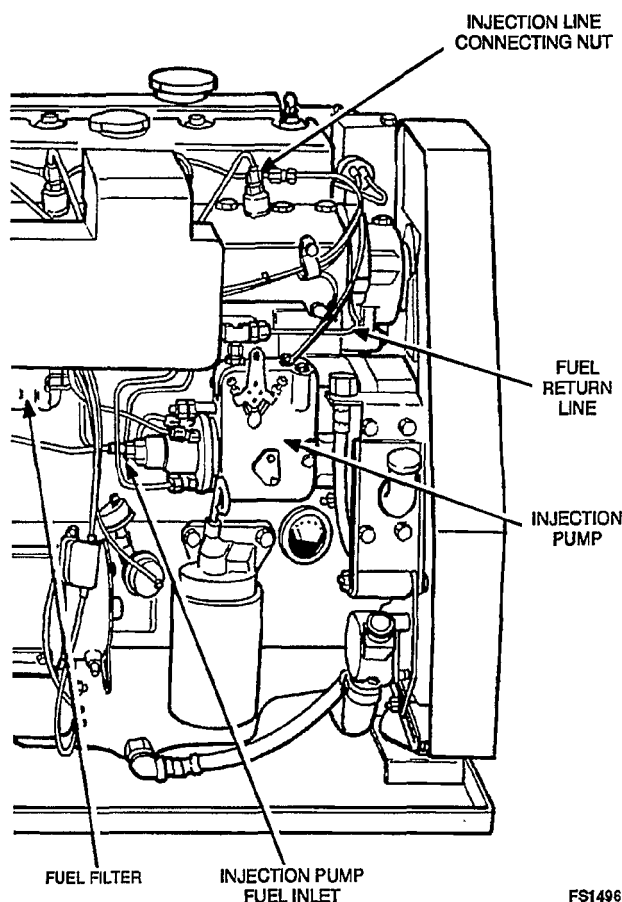

FIGURE 4-4. DIESEL FUEL SYSTEM (MDL4 SHOWN)
1. Loosen the filter-to-injection-pump fuel line at the injection pump inlet fitting. See Figure 4-4.
High Pressure Fuel System: The high pressure fuel system consists of the injection pump, fuel injection lines and fuel injectors. See Figure 4-4. This part of the system is self-priming since any trapped air is usually forced out through the injection nozzles. However, if the engine has run out of fuel, been shut down for an extended period, or has had the injection lines removed, it may be necessary to prime. Use the following procedure.
1. Loosen the fuel injection line connecting nut attaching each line to corresponding nozzle holder. See Figure 4-4.